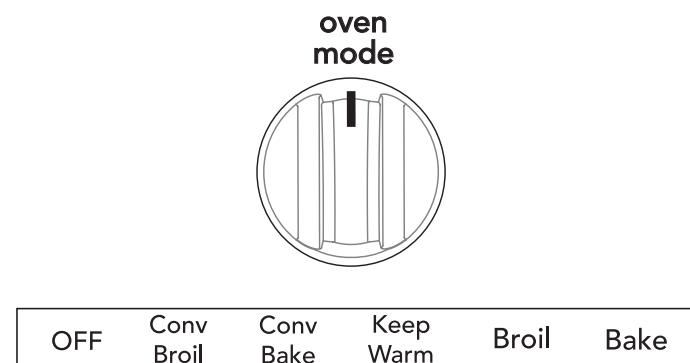

Figure 18: Oven mode knob
3. Turn the **oven mode** knob to the **conv bake** position (Figure 18).